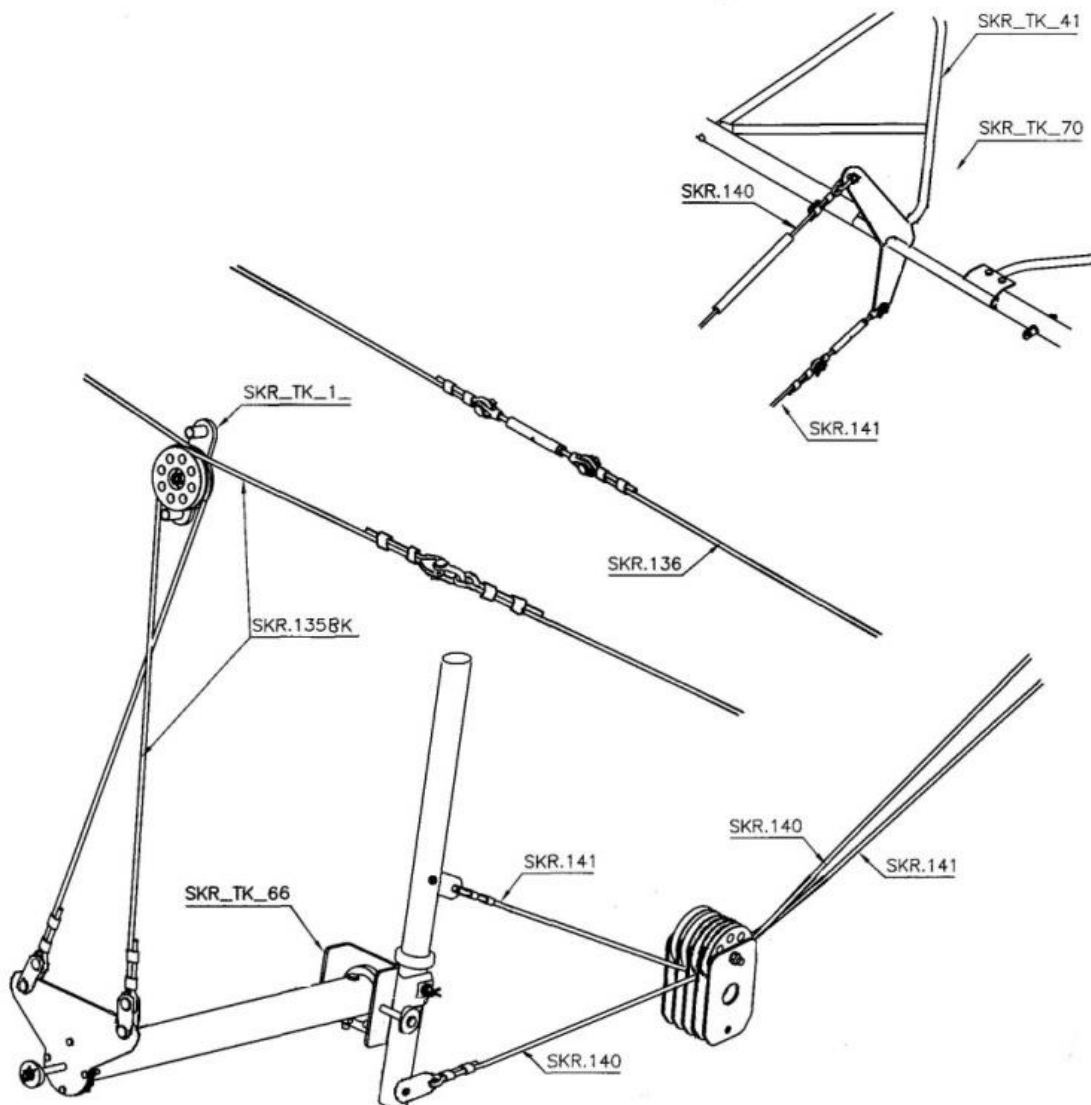

Figure 107 Elevator cable schematic
- a) Assemble the 4 pulley Block as shown in Figure 107 above. Note that the starboard most plate just has a single saddle washer between it and the TU19. Space as required to eliminate lateral movement with washers on the port side of the port most pulley plate.
Pass through the control cables as shown in Figure 107. Rudder cables are not handed. The tangs with lots of holes connect to the rudder pedals.